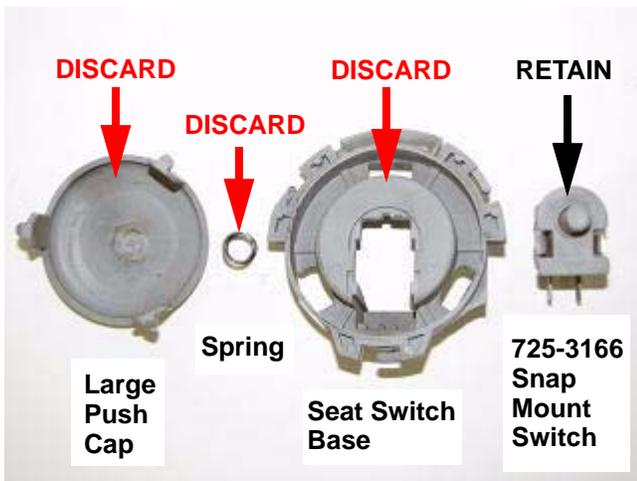

FIGURE 9
15. Figure 9 shows the original seat switch completely disassembled. Discard all parts except for the 725-3166 snap mount switch.